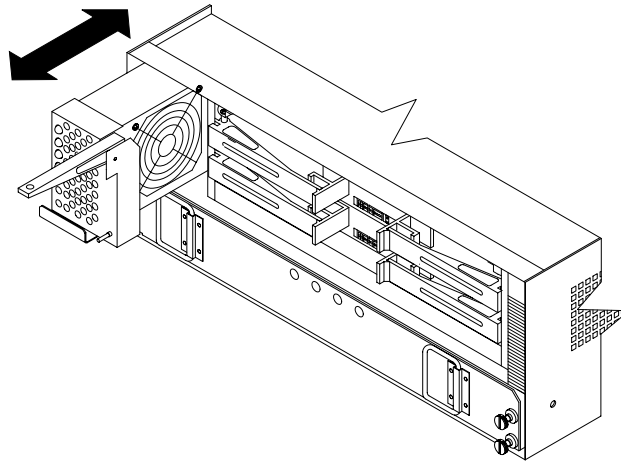
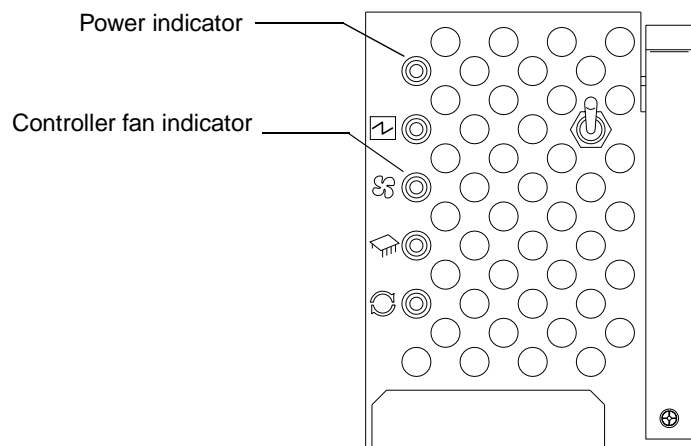

Figure 22. Removing and installing the controller fan
Figure 23. Controller fan indicator lights
The controller fan is a single, removable unit containing two cooling fans and temperature monitoring circuitry. The controller fan plugs directly into a slot on the front of the controller unit, to the left of the controllers (see Figure 22 on page 41). Five indicator lights provide overall system status information (see Figure 23 on page 41). The dual fans in the controller fan provide a redundant cooling system to both controller CRUs. If one fan fails, the other continues to operate, providing sufficient air circulation to prevent the controllers from overheating until you can replace the entire controller fan.
- 3 Remove the failed controller fan, as shown in Figure 22.